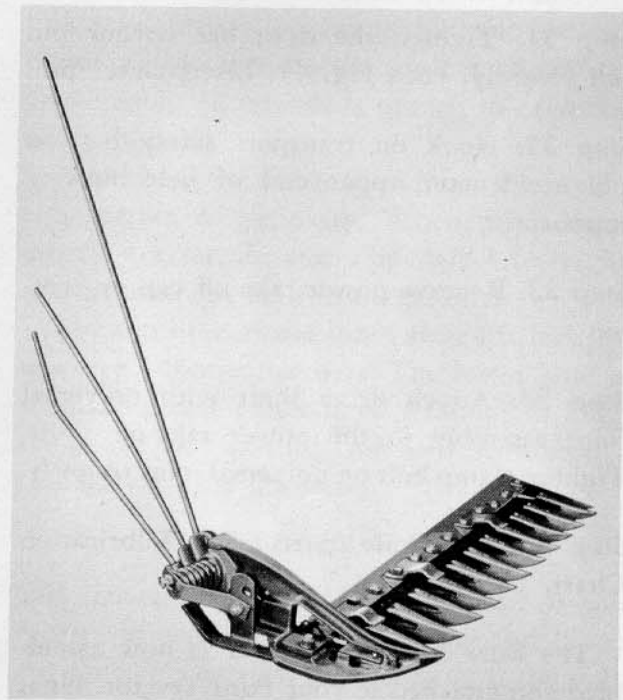

Figure 8
**Step 28:** Attach outer grass rod assembly to outer shoe. (See Figure 8)